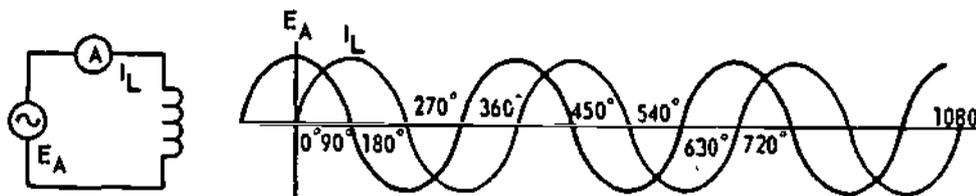

Figure 3-26. Phase Relationship
3-63. In all cases, the **AMPLITUDE** of the induced voltage is determined by the rate of change of current flow. The **POLARITY** of the induced voltage is determined by two factors: the direction of current flow and whether it is increasing or decreasing. The induced voltage opposes any change in current flow. If current is increasing, induced voltage opposes the increase; if current is decreasing, induced voltage opposes the decrease. Of special interest is the fact that for the sine wave of current, there is a sine wave of voltage. Refer to figure 3-26. Maximum CEMF is produced at the first instant AC is applied to a coil. Anytime the current is going from zero (0) to some other value at the maximum rate of change, CEMF is maximum. During this time the inductor appears as an open. An open has maximum voltage across it. When the CEMF is overcome current begins to flow through the coil. Effectively, this happens in a purely inductive circuit and because of this, we say that current lags the applied voltage across an inductor by 90°.